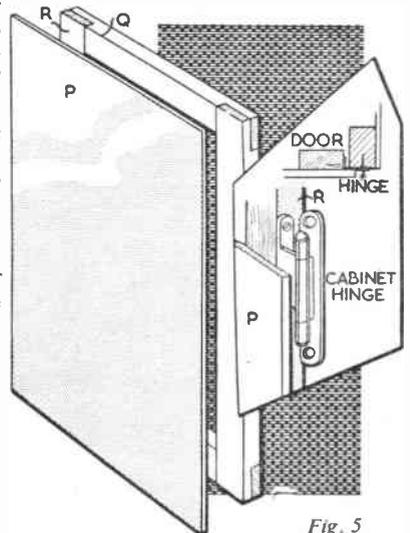

Fig. 5
The door consists of a frame, pieces (R) and (Q) of 1in. by  $1\frac{1}{2}$ in. wood halved together and covered with hardboard, which overlaps about  $\frac{1}{4}$ in. all round. The diagram in Fig. 5 shows the construction and also shows a detail of the special cabinet hinge which may be used. If you examine the hinge you will see quite clearly how it may be fixed. Hobbies No. 711 handle is screwed in place and a ball catch fixed inside.